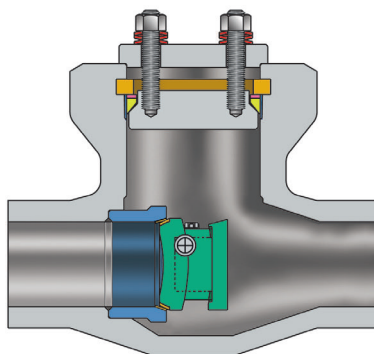

Figure 18
**2. Tilting Disc Check** (Figure 18). Due to a shorter moment between the hinge pin and centerline of the disc (vs. swing checks), tilting disc check valves can react quicker to reversals in flow, thus providing a higher margin of safety to the upstream equipment and media “hammer” potential. Note the differences in cost and Cv between these two common types of check valves before purchasing.